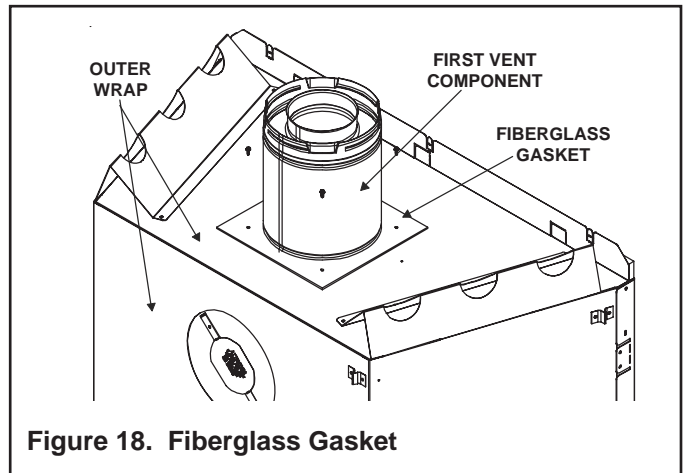

Figure 18. Fiberglass Gasket
**WARNING: THE REAR VENT COLLAR SEAL CAP MUST REMAIN ATTACHED TO THE REAR VENT COLLARS IF THE VENT SYSTEM IS ATTACHED TO THE TOP STARTING COLLARS. SEE FIGURE 18.**
- Make sure that the fiberglass gasket supplied in the manual bag seals between the first 8 inch (203mm) vent component and the outer fireplace wrap. Using 2 self-tapping screws from the manual bag secure that gasket to the outer wrap (see Figure 18).